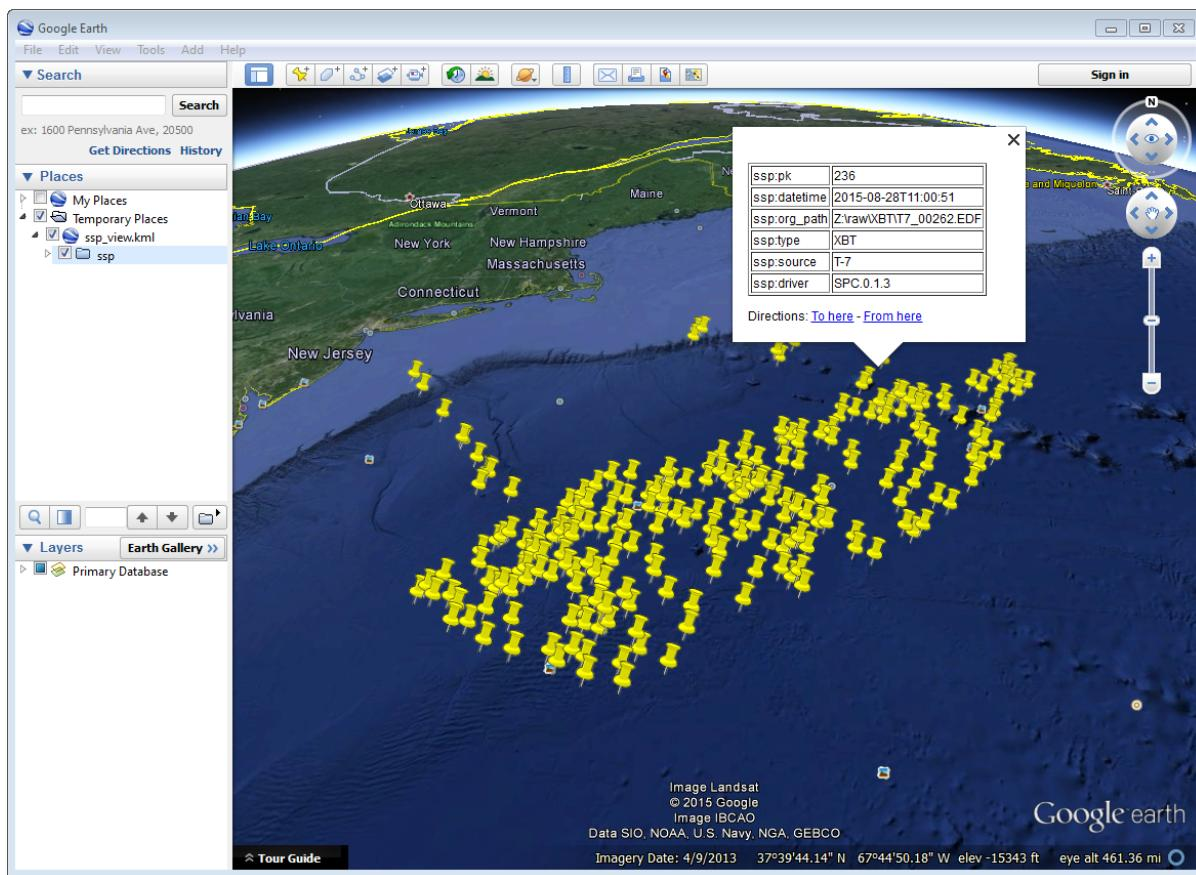

Fig. 2.53: Loading result of the exported metadata (kml format) in Google Earth.
- Export the profile metadata in several geographic formats: csv, kml, shapefile (e.g., Fig. 2.53), and